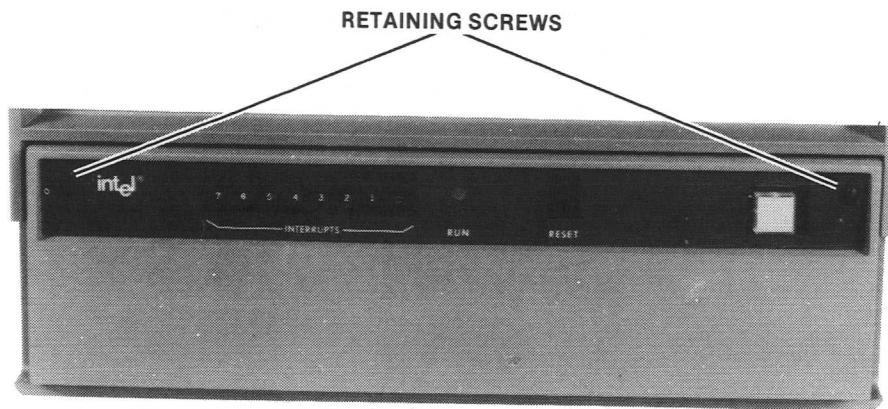
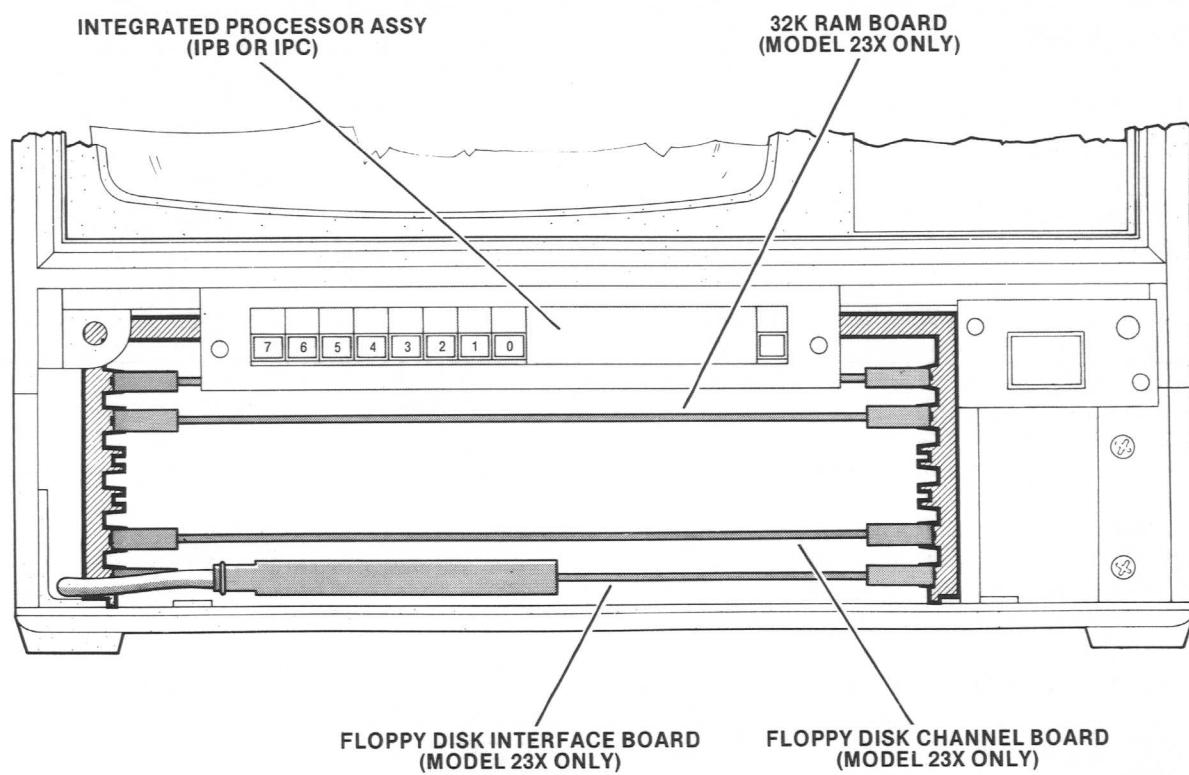
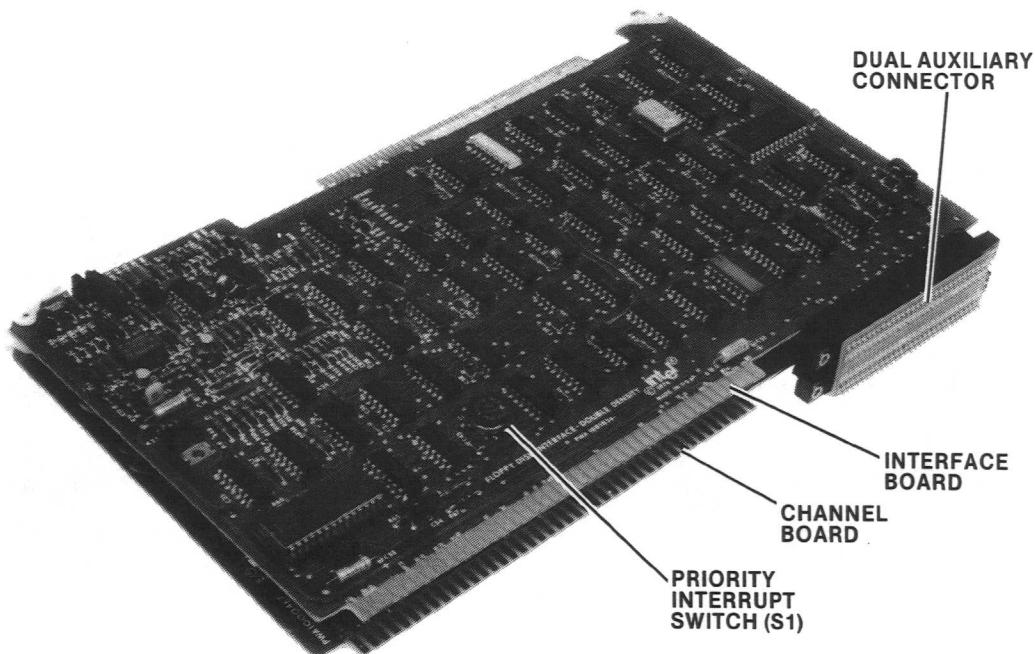

Figure 2-6. Model 22X/23X System Front Panel
Figure 2-7. Model 22X/23X System Cardage
Figure 2-9. Dual Double Density Diskette Drive Controller
7. On front panel, rotate the two retaining screws counterclockwise and remove panel. (See figure 2-6.) Remove and discard foam packing material. Remove integrated processor assembly (IPB or IPC) mounted in top slot of cardcage by pulling outward on card extractors at each side of assembly. Refer to figures 2-7 and 2-8. Once IPB/IPC has been removed, press firmly inward on all integrated circuits mounted in sockets to ensure proper seating. Replace IPB/IPC in the top slot of cardcage; push firmly inward on card extractors to seat IPB/IPC fully into its backplane connector.
10. Examine the two printed circuit boards in the bottom two slots of cardcage. Remove large cable connector from interface board, and then remove *both* boards at once. A dual auxiliary connector is mounted on left rear, connecting both the interface board and channel board. (See figure 2-9.) Remove this connector.
Figure 2-9 shows the dual auxiliary connector installed such that the interface board will be mounted above the channel board when installed in the cardcage. As shown in figure 2-7, the positions of these boards can be reversed without affecting their operation.